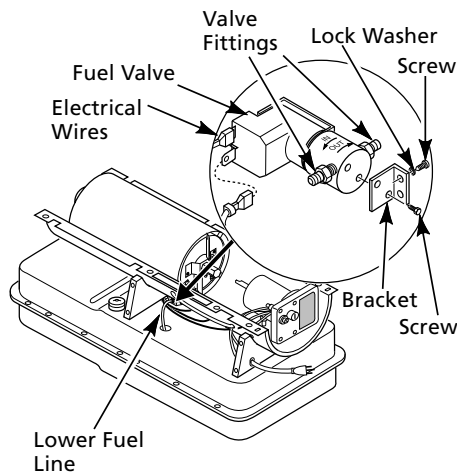

Figure 11 - Fuel Valve Replacement
- Pull lower fuel line off the fuel valve fitting (See Figure 11, page 7).
4. Disconnect red and white wires from fuel valve (See Figure 11).
5. Using 1/4" nut driver remove 2 screws/lockwashers holding fuel valve and bracket to lower shell (See Figure 11). Save these screws/lock washers.